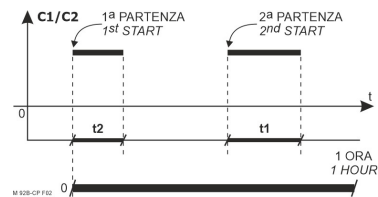

FIG. 2
**PROG. 10 for C1:** COUNTING of the "closures of C1" that occur in 1 HOUR from the first closure (see Fig. 2).